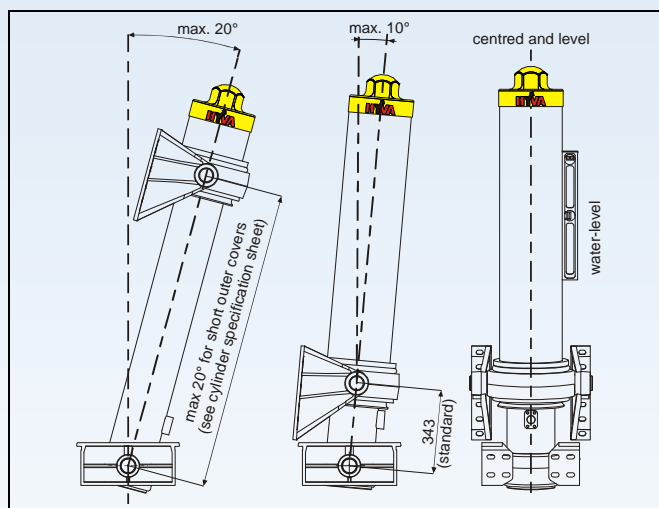

FIGURE 1
Mount the cylinder in the longitudinal centre line of the body. Position the cylinder, looking along this longitudinal centre line, exactly vertical. This is to minimize the risk of side load. The maximum forward fitting angle (FC) depends on the length of the cover (fig.1).